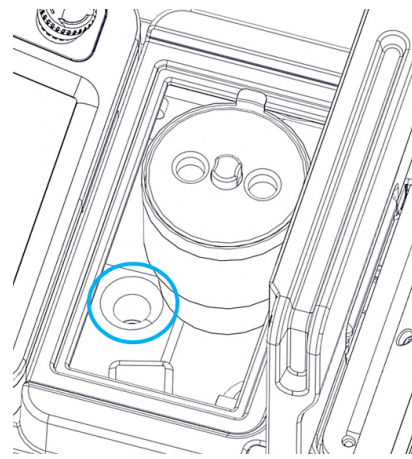

FIGURE 10-4
5. Check for clogging at the drain hose fitting (**Fig. 10-4**) on the inside of the tank. Clean if necessary.